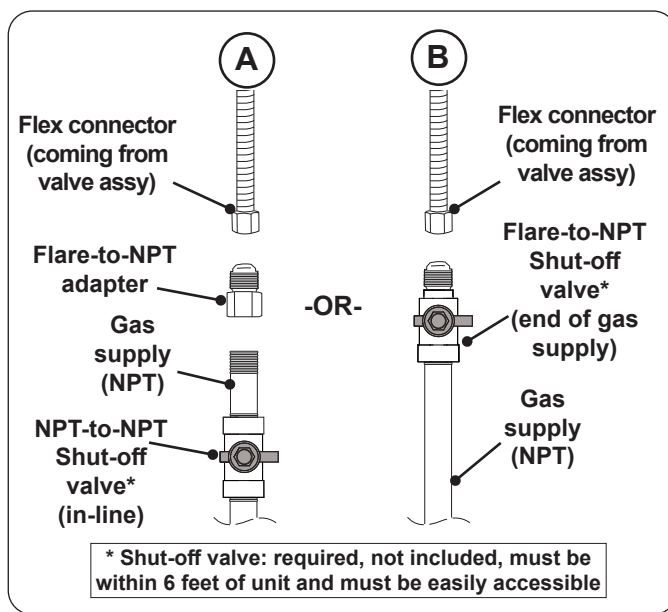

Fig. 26-1 Connecting to a gas line
- Install the supplied flare-to-NPT adapter to the gas supply (NPT) using a pipe joint compound resistant to all gasses (see Fig. 26-1, A). Tighten securely.
- Connect the flex connector to the adapter (see Fig. 26-1, A). Tighten securely.
- Connect the flex connector to the shut-off valve (flare)(see Fig. 26-1, B). Tighten securely.